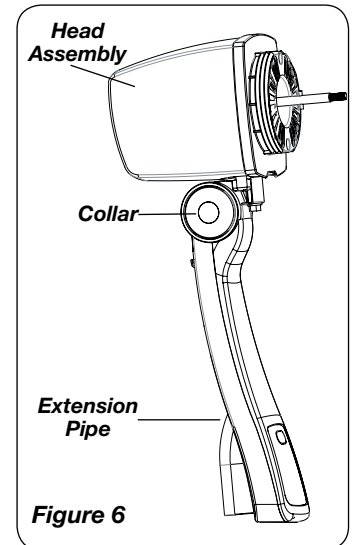

Figure 6
- Place **Head Assembly** with **Collar** onto **Extension Pipe**. (**Figure 6**)